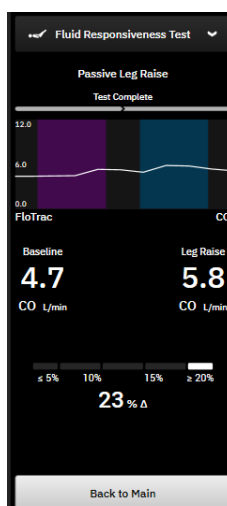

Figure 13-22 Fluid Responsiveness Test – results screen
- 11 At the conclusion of the test, the change in the selected **Parameter** value as a response to the fluid challenge will be displayed. See Figure 13-22. Touch the **Back to Main** button to perform another test, or the hide side panel by touching **Clinical Tools** icon  on the navigation bar to return to full display of the main monitoring screen.
- 11 At the conclusion of the test, change in the selected **Parameter** value as a response to the fluid challenge will be displayed. See Figure 13-22. Touch the return icon to perform another test, or the home icon to return to the main monitoring screen.